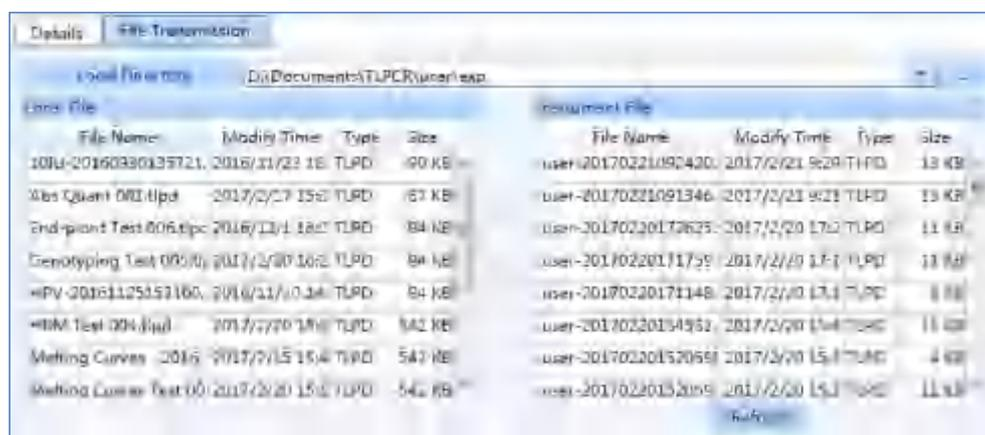

Figure D-2.2d Instrument Management interface - File Transmission tab
- ❶ **Reminding:** the IP address of the **Connected Computer** should be set according to the default IP address of the instrument.
- **File Transmission** tab: to transmit the file between the control computer and the connected instrument, as shown in figure D-2.2d.